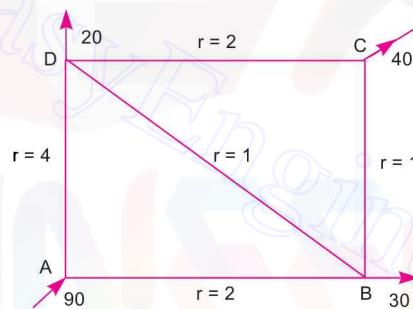

Fig. 11.34
**Problem 11.56** Calculate the discharge in each pipe of the network shown in Fig. 11.34. The pipe network consists of 5 pipes. The head loss  $h_f$  in a pipe is given by  $h_f = rQ^2$ . The values of  $r$  for various pipes and also the inflow or outflows at nodes are shown in the figure.